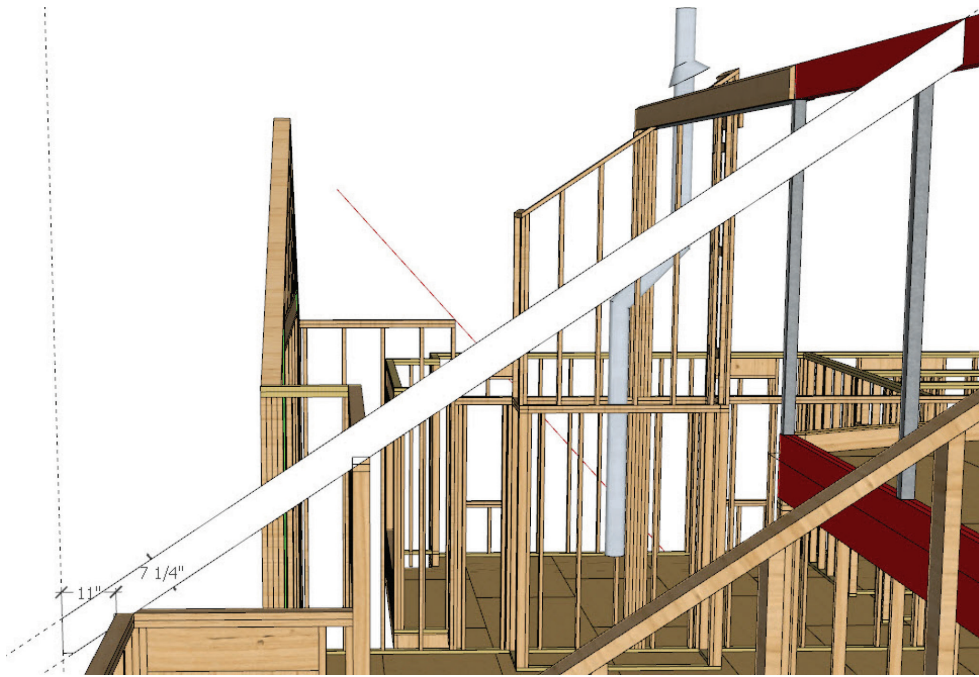
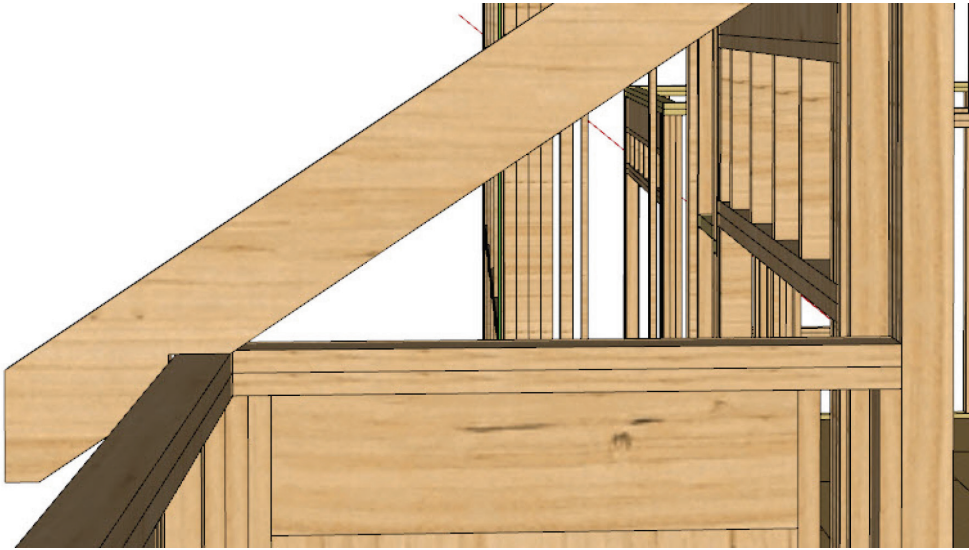

Figure 13.22 Create Rafter Face.
Figure 13.23 Texture Rafter.
horizontal until I intersect with the guideline for the bottom of the rafter, then up and along the guideline until I intersect with the sheathing (which I cut on to use as reference), then up to the top of the wall, then 4" across the top of the wall, then up along the guideline again until I hit the beam at the loft. From there, I draw a line up until it intersects with the top guideline. Finally I draw a line back down along the top guideline until I intersect with my start point creating the rafter face as shown in Figure 13.22.
I almost have my first rafter. The next step is to Push/Pull this face 1½", triple-click on it, Make Component. I like to measure from the long point to long point of the rafter and name the rafter by the size of lumber needed, like 2 × 8 × 20' Rafter (the measurement was 18'3" so I round up to next unit of length for available lumber). Now that I have my first rafter, I like to texture it to look like a rafter, with lumber texture. So, I use the paint bucket tool (B) and click the eyedropper on the wood texture from the header (as seen in the bottom left of Figure 13.22), then click on our rafter texture it, as shown in Figure 13.23.